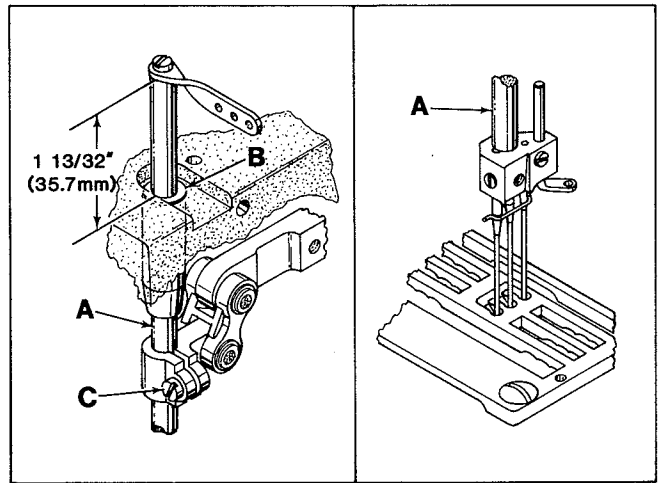
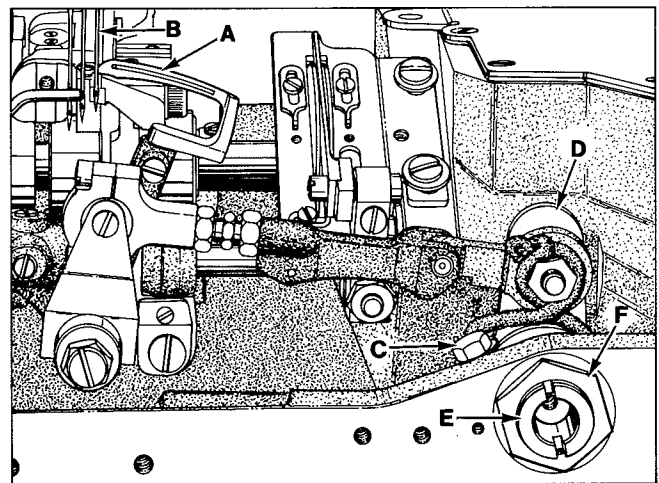
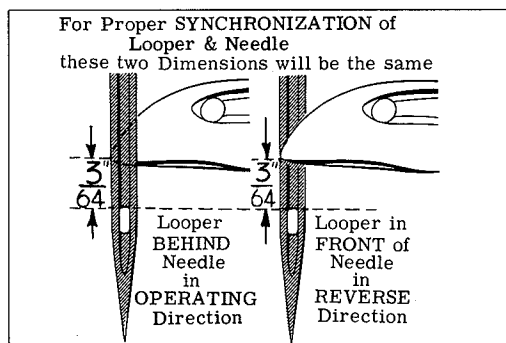

Fig. 3
Fig. 4
Fig. 5
Insert a new set of needles (type and size required). With needle bar (A, Fig. 3) at TOP of its stroke, check to ensure an approximate setting of $1 \frac{13}{32}$ inch (35.7mm) from top of needle bar to top of needle bar bushing (B). Adjustment can be made by loosening clamp screw (C) and moving needle bar up or down, re-tighten screw (C) TEMPORARILY. Turn handwheel to bring needle bar down to ensure that needles center in needle holes of throat plate as shown in Fig. 3. Adjustment can be made by loosening screw (C) slightly, allowing needle bar to be turned as required, being careful not to change the temporary height setting. Tighten clamp screw. Re-check temporary height setting.
Insert looper into the looper rocker, pushing it all the way down and tighten screw against flat on shank of looper. Turn handwheel in the operating direction until the point of the looper (A, Fig. 4) moving to the left, is even with the left side of right needle (B). Note the height of the eye of the needle with respect to the looper point (See Fig. 5). Turn the handwheel in the reverse direction until the point of the looper again moving to the left, is even with the left side of right needle (See Fig. 5). If the height of the eye of the needle with respect to the looper point are the same, looper and needle motions are synchronized - a variation of .005 inch (.127mm) is allowable.
NOTE: The 3/64 inch (1.2mm) dimension shown in Fig. 5 is for final setting of needle bar height.
Loosen screw (C, Fig. 4) in looper drive lever (D). A rod of .146-40 thd. or Union Special Screw No. 22870 A can be threaded into the looper drive lever rocker shaft through the center of thrust adjusting screw (E). Tap or pull slightly as required to position shaft for proper synchronization. Tighten screw (C) securely and remove rod or screw used to position shaft. Loosen lock nut (F) and TORQUE thrust adjusting screw (E) to 6 in. lbs. (7cm/kg); re-tighten lock nut (F) securely.
Turn handwheel in operating direction until point of looper is flush with the left side of right needle. Final setting is 3/64 inch (1.2mm) between top of needle's eye and bottom surface of looper (See Fig. 5). If adjustment is required, loosen screw (C, Fig. 3) move needle bar CAREFULLY up or down, not to disturb alignment of same. Retighten screw (C) and check to ensure that needles center in needle holes of throat plate.